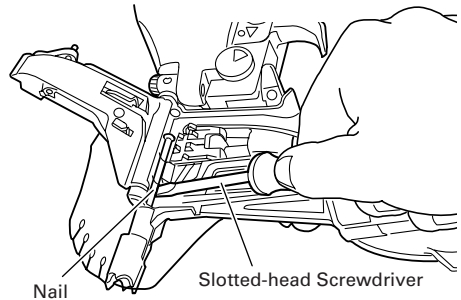

Fig. 15
- (2) Remove the jammed nail with slotted-head screwdriver. (Fig. 15)